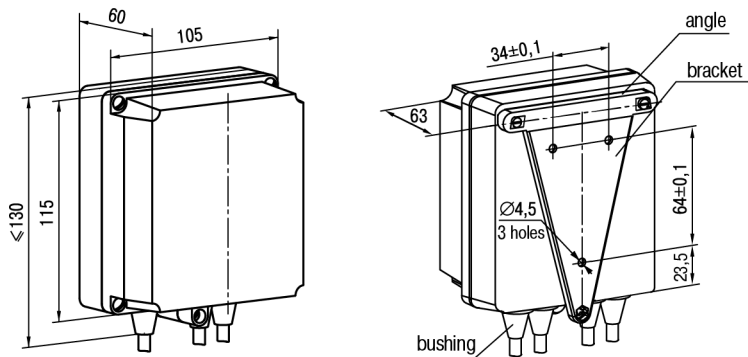

Figure 4.2 – Dimensions of H housing
1. Fasten the bracket on the surface intended for mounting with three M4 × 20 screws (see *Figure 4.2*).